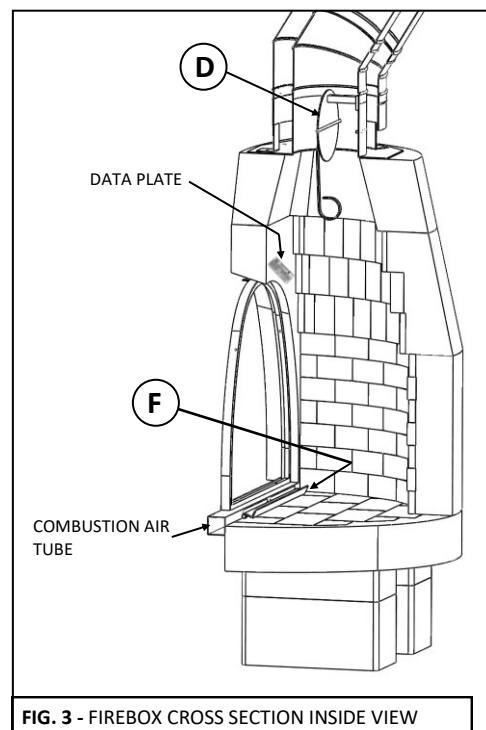

FIG. 3 - FIREBOX CROSS SECTION INSIDE VIEW
The Outside Air Door (F) has two positions: opened and closed. The Outside Air Door is in the open position when the door is resting on the firebox base brick as shown in FIG. 3 (page 4). In this position outside air enters the firebox through milled slots on the inside edge of the combustion air tube. Pulling the door towards the opening of the firebox closes the door and minimizes outside air from entering the firebox.